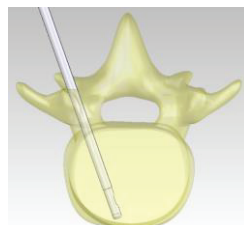

Figure 2A: Lateral Access
1. Under fluoroscopic visualization, insert Blazer-C through Working Cannula and into access site. Position Deployment Cannula to deploy Blazer-C Wire in the anterior column (See Fig. 2A) and in the orientation desired to create channel. Lock Working Cannula hub.